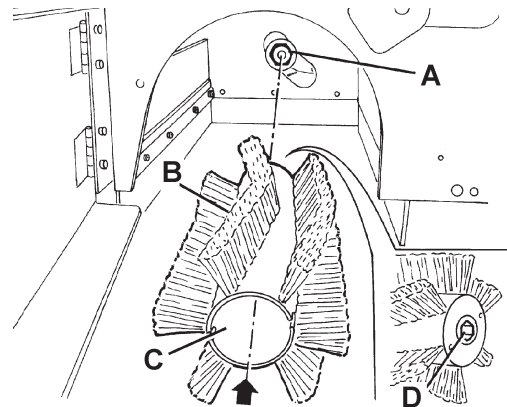

Figure 8
7. Check that the drive hub (A, Fig. 8) is free from dirt or foreign materials (ropes, rags, etc.) accidentally rolled up.
8. The new main broom must be installed with the bristles rows (B, Fig. 8) bent as shown in the figure.
9. Install the new main broom (C, Fig. 8) and ensure that the mesh (D) correctly fits into the relevant drive hub (A).